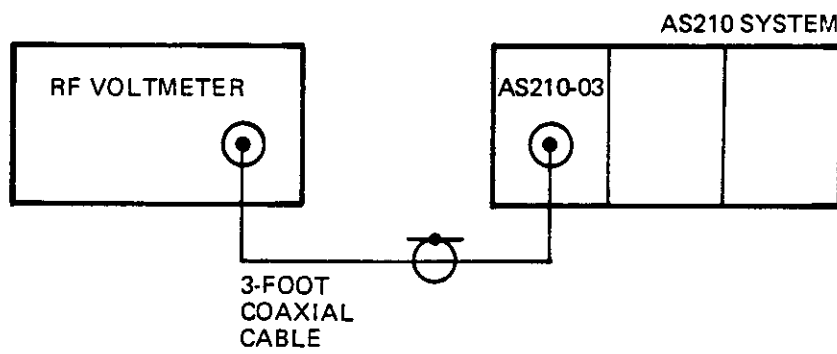

Figure 5.2 AS210-03 Frequency Generator RF Output Voltage Level Test Configuration
- B. Connect the equipment as indicated in Figure 5.2 and apply power. The Rubidium Frequency Standard in the AS210 system will require 20 minutes warm-up time to reach the specified frequency accuracy.
- B. Connect the AS210-03 frequency generator output to the input of the RF voltmeter, as in Figure 5.2.